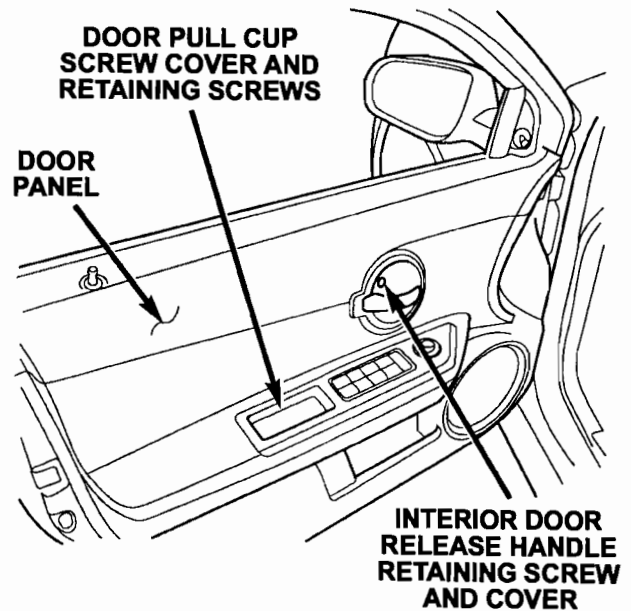

Figure 1
3. Using a small screwdriver, open the interior door release handle screw cover (Figure 1).
4. Remove the interior door release handle retaining screw (Figure 1).
5. Using a small screwdriver, remove the door pull cup screw cover (Figure 1).
6. Remove the two pull cup retaining screws (Figure 1).
40. Install the two pull cup retaining screws (Figure 1).
41. Install the door pull cup screw cover (Figure 1).
42. Install the interior door release handle retaining screw (Figure 1).
43. Install the interior door release handle screw cover (Figure 1).